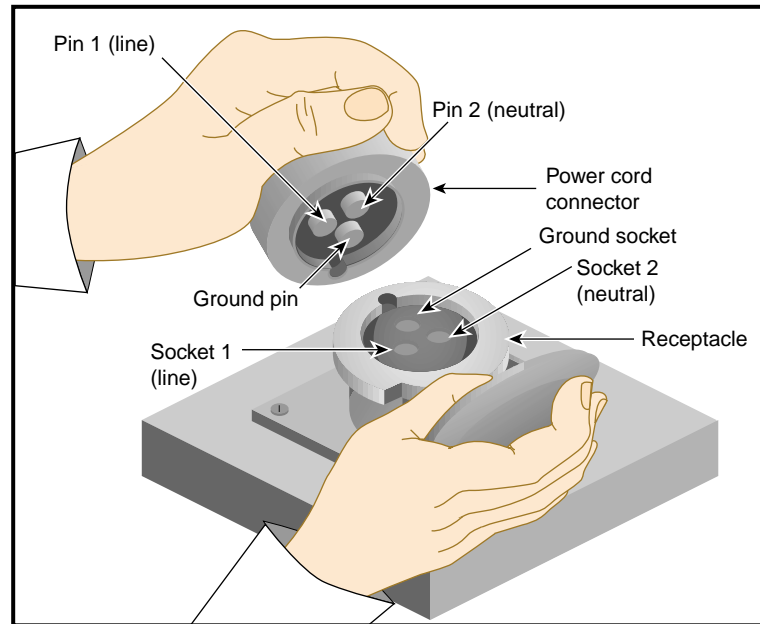

Figure 2-2 32-amp Single-phase Power Plug for International Sites
2. Check the voltage between socket 1 and socket 2 (refer to Figure 2-2). The meter should read between 200 and 240 Vac.